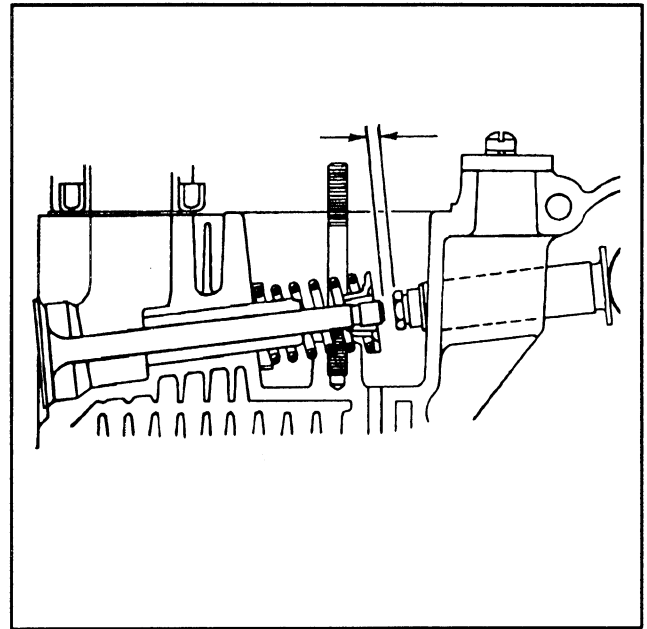

Figure 3–22a. Valve–Tappet Clearance
2. Measure clearance between valve stem and tappet with a feeler gauge, see Figure 3–22a. To adjust, turn adjusting screw on tappet in or out until proper clearance is attained